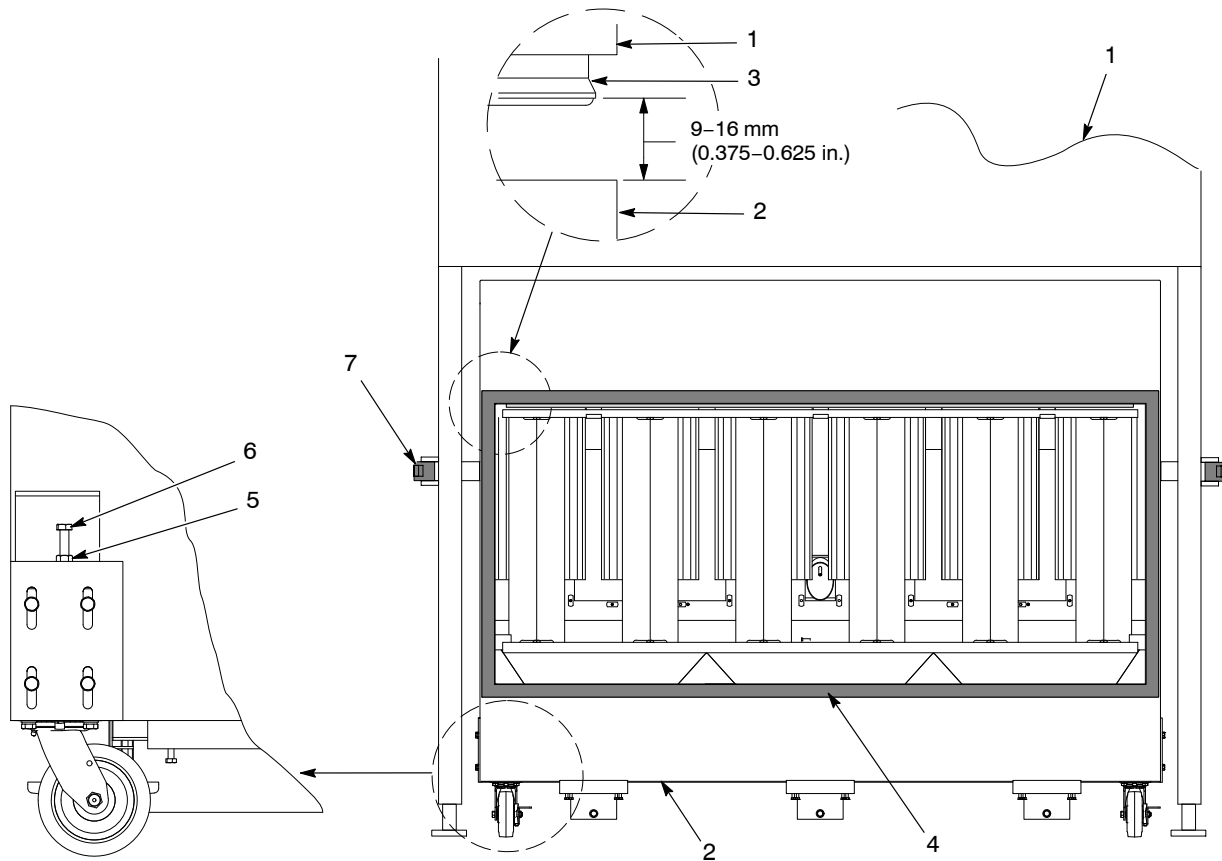

Figure 3-1 Positioning and Leveling the Color Module
2. See Figure 3-1. Hook the cinch straps (7) to the color module (2). Tighten the ratchets to pull the color module against the stops and compress the D-gasket (4) evenly against the inlet frame. This must also close the limit switch on the inlet frame.
3. Loosen the lock nuts (5) and use the leveling screws (6) to adjust the color module height and level it as necessary.